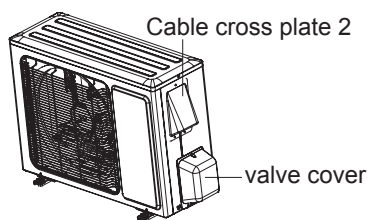

Fig.21
- (1) Remove the screw on the cable cross plate 2 and valve cover of outdoor unit and then remove the cable cross plate 2 and valve cover.(As show in Fig.21)